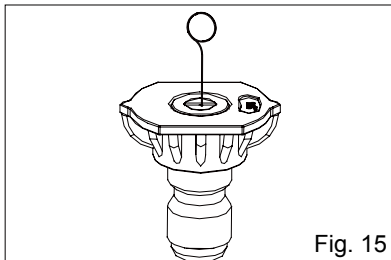

Fig. 15
SPRAY TIP MAINTENANCE (See Figure 15.)
- Using the spray tip cleaning tool provided, free any foreign materials clogging or restricting the spray tip opening. Refer to Fig. 15
| | Spray tip has not been installed on wand assembly. | Add desired pressure tip to end of wand. See page 22 Fig. 15 for details. |